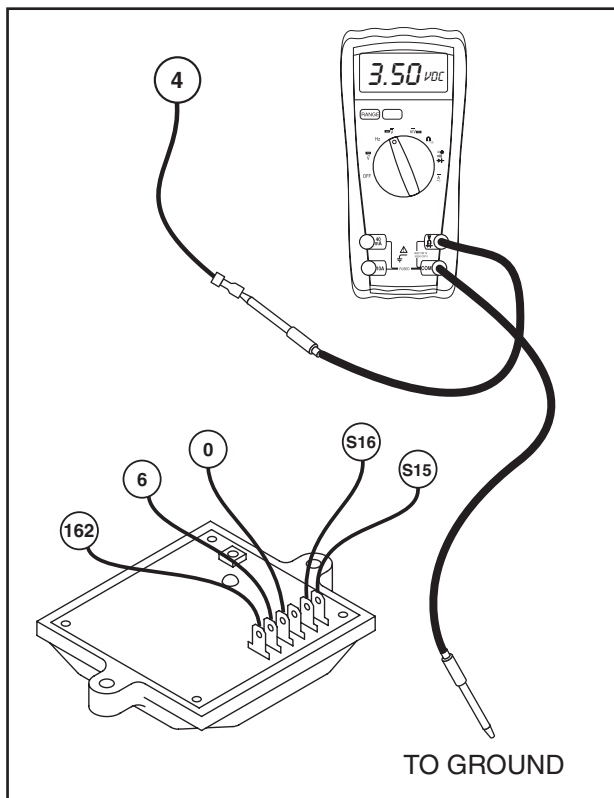

Figure 4. Field Boost Test Points
5. Crank the engine while observing the VOM reading. While the engine is cranking, the VOM should read approximately 3-4 volts DC. When engine is not cranking, VOM should indicate "zero" volts (see Figure 4).